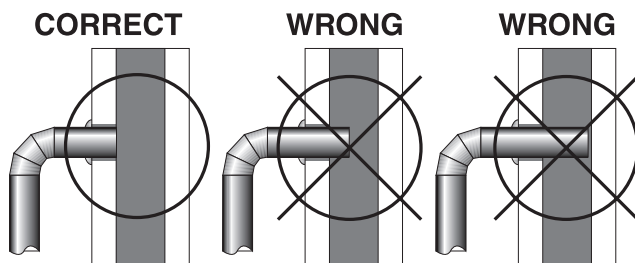

Fig.9 – Stovepipe/Flue Connections
4. The pipe cannot extend into the chimney flue (fig. 9).
6. It is recommended that no more than two (2) 90 degree bends be used in the stovepipe installation. The use of more than two 90 degree bends may decrease the amount of draw and possibly cause smoke spillage. Where possible, use only corrugated (nonadjustable) elbows. These provide a better seal.
4. Install the stovepipe into the thimble as far as possible without extending past the flue lining (see figures 9 & 10 on pages 8 & 9).